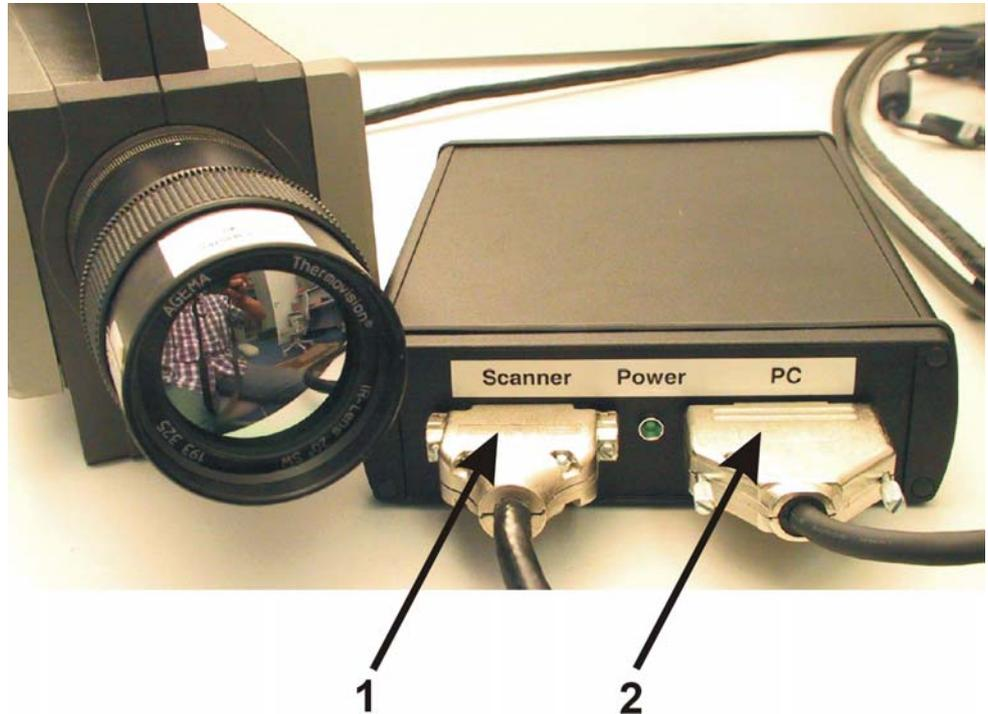
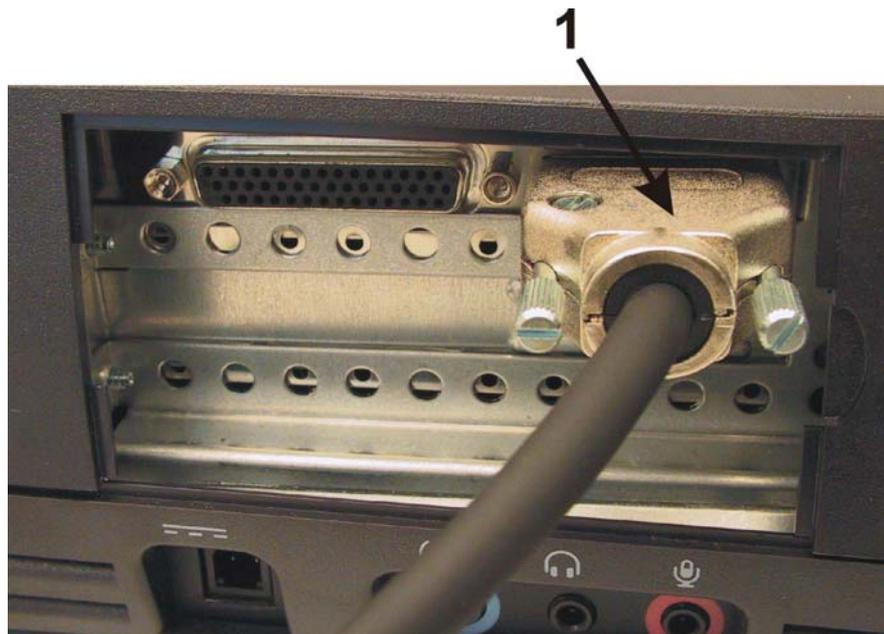

Figure 4: Front connectors of the PowerBox
Figure 5: Camera connector IRFlashLink
- Connect the cable of the AGEMA900 camera to the **Scanner** connector of the PowerBox (Figure 4,1).
- Connect the supplied cable with the **PC** connector of the PowerBox (Figure 4, 2) and the other end with the 15-pin DSUB-Connector of your multifunction IRFlashLink board (Figure 5, 1).